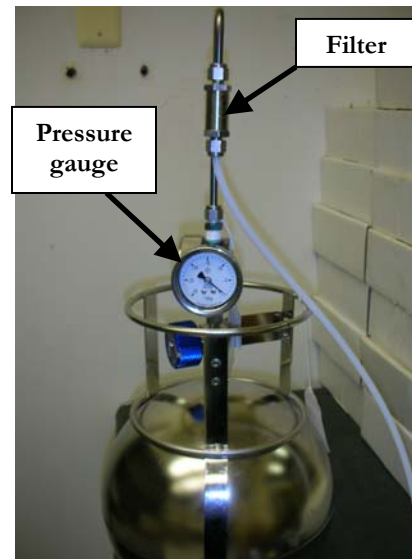
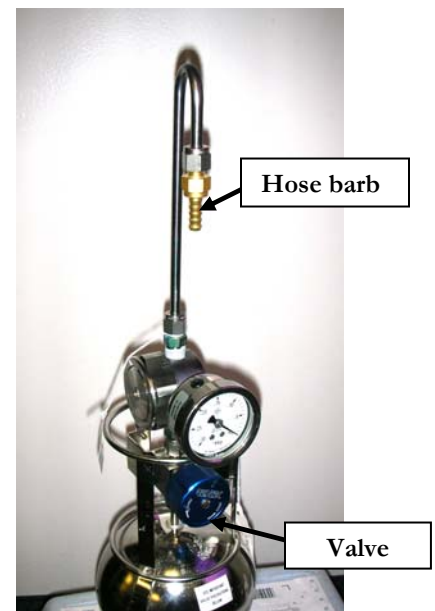

Figure 1: Air sampling canister with filter
Figure 2: Air sampling canister with hose barb
- 🔧 Flow controllers for ambient air samples will have a filter on the end (figure 1), while flow controllers for soil gas, sub-slab, or near-slab will have hose barbs on the end (figure 2). These fittings can be changed as per client request.